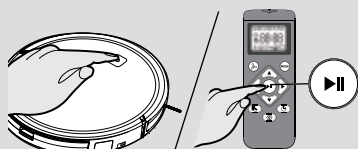

Fig. 10
2. Press the on/ standby button on the device or the start/ pause button on the remote control to start the cleaning process. [Fig. 10]